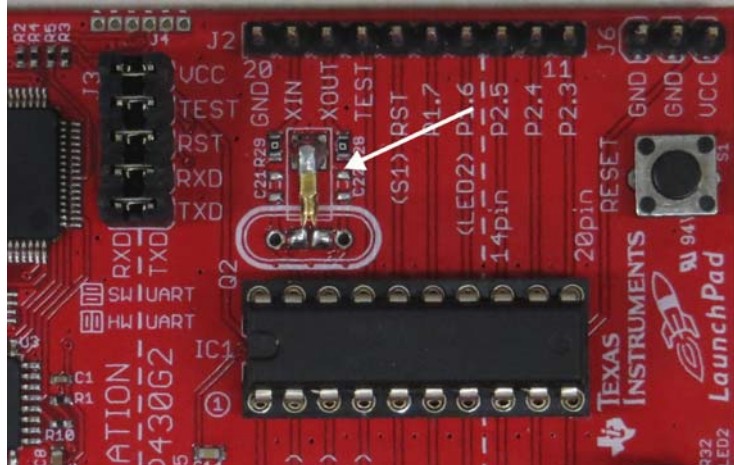

Figure 3. Crystal attached to the LaunchPad
- d. Apply the smallest amount of solder possible to connect each pin to the board, remove the tape, and finally solder the case of the crystal to the ground pad. Refer to Fig. 3 for a picture of a crystal attached to the MSP430 LaunchPad.